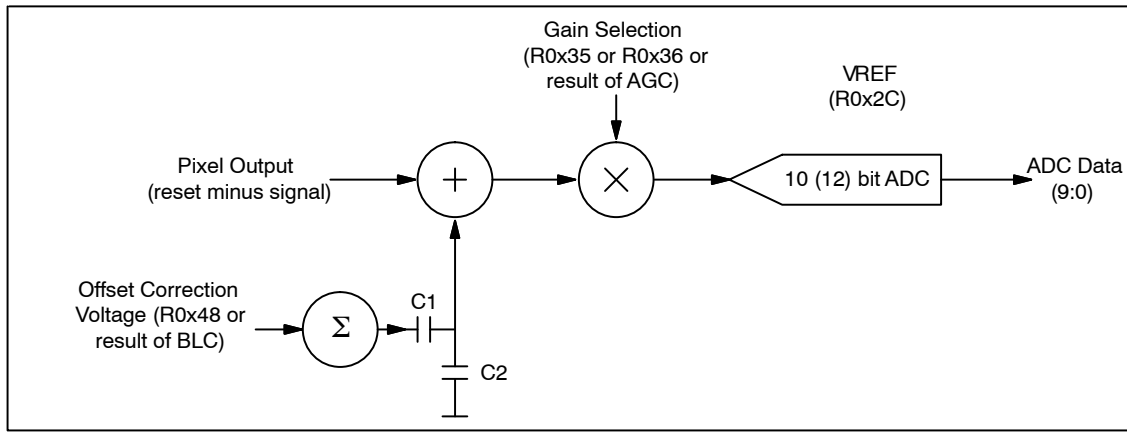

Figure 27. Black Level Calibration Flow Chart
- The MT9V034 has automatic black level calibration on-chip, and if enabled, its result may be used in the offset correction shown in Figure 27.